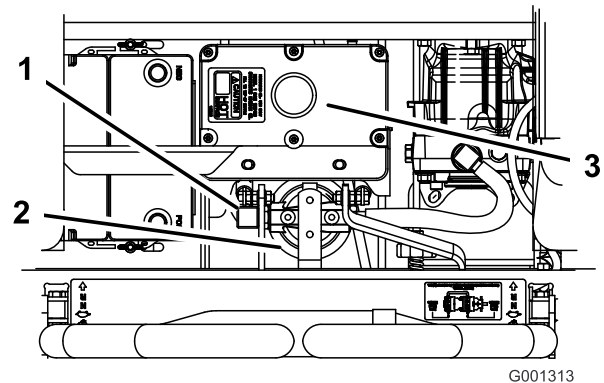

Figure 96
- Remove the right hydraulic line that comes into the adapter (Figure 96).
- Install the right hydraulic line to the adapter (Figure 96).
- Apply a thin coat to the rubber gasket on the replacement filter (Figure 96).
- Fill the hydraulic tank with hydraulic fluid until the fluid overflows the filter and then turn the fluid filter clockwise until the rubber gasket contacts the filter adapter, then tighten the filter an additional 1/2 turn (Figure 96).